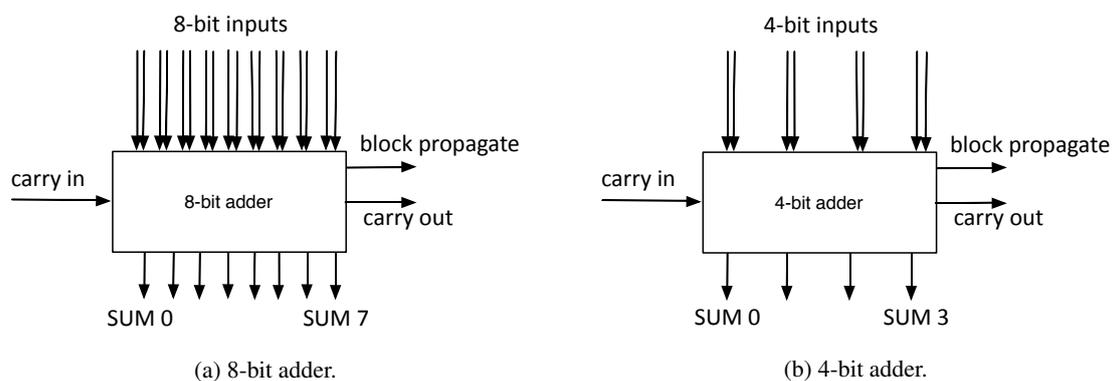

Figure 11.1: Two adders. In (a) is an 8-bit adder and in (b) a 4-bit adder.
You have designed an 8-bit adder circuit with eight SUM outputs, one carry output and one block-propagate output, as shown in Figure 11.1 (a). The propagation delays expressed in unit delays are shown in Table 11.1. You have now now been asked to design a 32-bit adder with as short a propagation delay as possible. Available to you are AO, OA, AND and OR gates which each have a delay of 1 unit delay.
- c) What if you also had designed a similar 4-bit adder, as shown in Figure 11.1 (b), with propagation delays given in the last column of are shown in Table 11.1. Would it be better to use the 4-bit adder rather than the 8-bit adder in your 32-bit adder? Motivate by drawing a diagram and calculating the delay. (2 p)